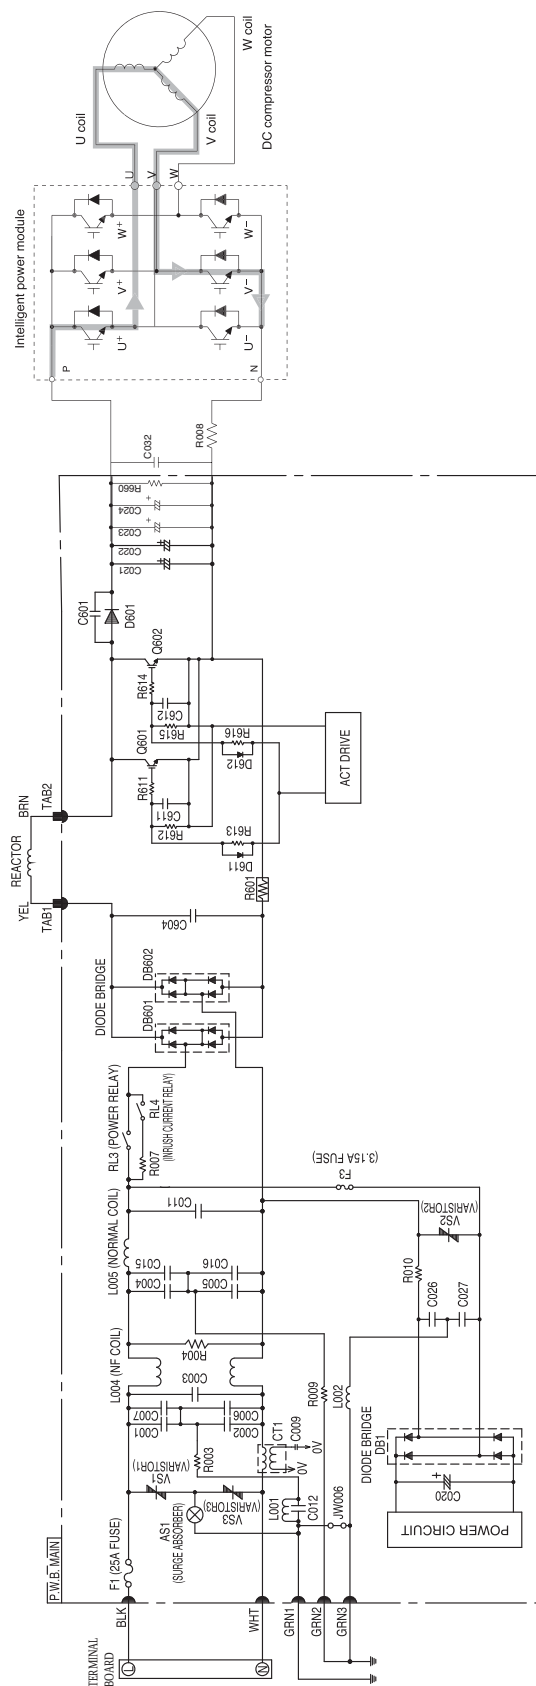
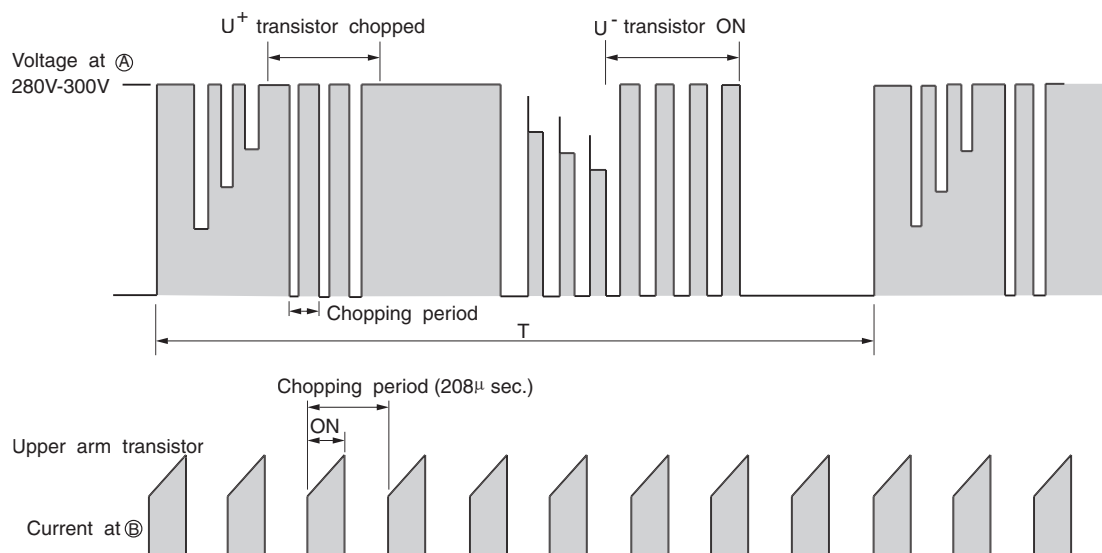

Fig. 7-1 System power module circuit (U^+ is ON, V^- is ON)
Fig. 7-3 Voltage waveform at each point
Fig. 7-1 shows peripheral circuits of intelligent power module (IPM).
At point E : U⁺ is ON, V⁻ is ON (circuit in Fig. 7-1)
Fig. 7-3 shows voltage waveform at each point shown in Figs. 7-1 and 7-4. First half of upper arm is chopper, second half is ON, and first half of lower arm is chopper, second half is ON.
- (1) When U⁺ transistor is ON: U⁺ transistor → U coil → V coil → V⁻ transistor → DC current detection resistor → Point B (Fig. 7-3)
Since current flows at point ⑤ only when U⁺ transistor and V⁻ transistor are ON, the current waveform at point ⑤ becomes intermittent waveform as shown in Fig. 7-3. Since current at point ⑤ is approximately proportional to the input current of the air conditioner, input current is controlled by using DC current (I_d) detection resistor.